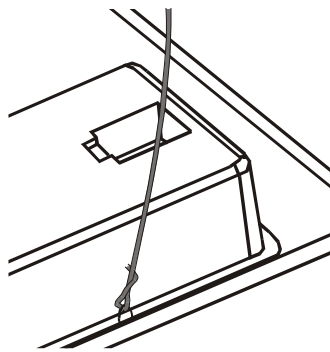

Figure 8: Securing the Speaker to a Ceiling Anchor Point
2. Secure the speaker by connecting the speaker support ring to an independent secure ceiling anchor point (see Figure 8) as appropriate. The anchor prevents the speaker from falling if the tile itself comes out or falls apart.
6. Secure the speaker by connecting the speaker support ring to an independent secure ceiling anchor point (see Figure 8).